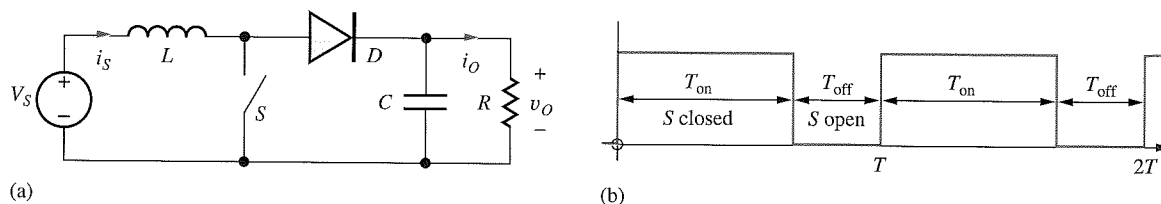
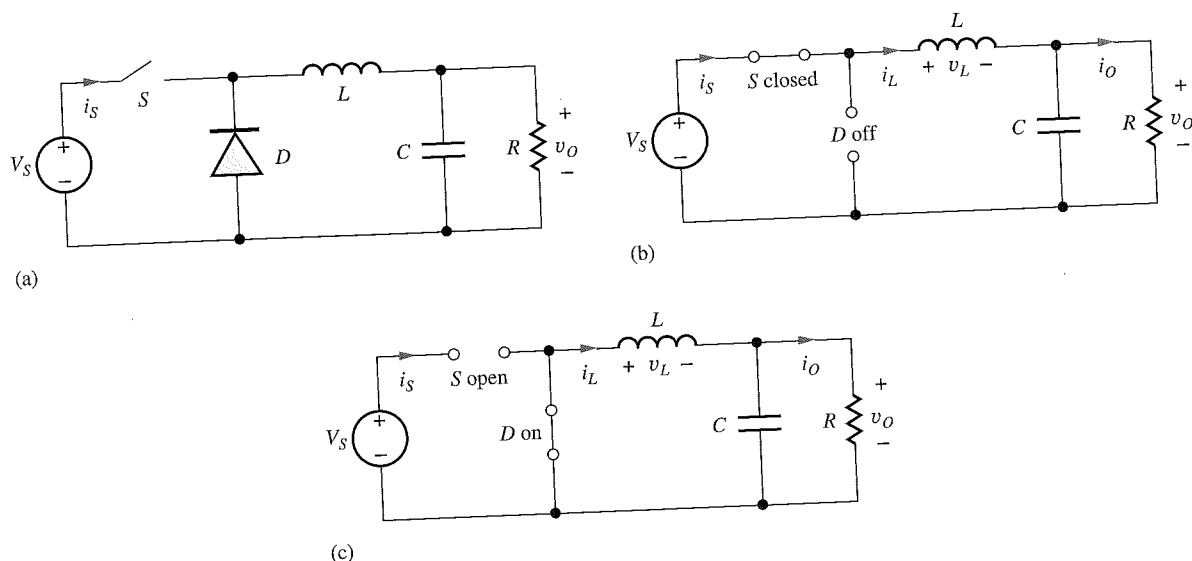

Figure 3.73 (a) dc-to-dc boost converter. (b) Periodic switch timing: Switch S is closed during T_{on} and open during T_{off} .
Figure 3.76 (a) dc-to-dc buck converter. (b) Model valid during T_{on} when switch S is closed. (c) Model for T_{off} interval when switch S is open.
The circuit for the basic boost converter is in Fig. 3.73(a). At the heart of the converter are the inductor L and switch S , which is periodically turned on and off, as indicated in Fig. 3.73(b). The switch is closed during the time interval T_{on} and open during the time interval T_{off} . Switching is periodic with period $T = T_{\text{on}} + T_{\text{off}}$. Diode D also operates as a switch and is off when S is on and vice versa. A dc input voltage is supplied by source V_S , and R and C represent the load resistance and filter capacitor, respectively.
EXERCISE: What is the duty cycle of the switching waveform in Fig. 3.73(b)?
The buck converter in Fig. 3.76 is designed to produce an output voltage that is smaller than the input voltage. Operation of the buck converter is similar to that of the boost converter, and switch S operates periodically with the same timing as in Fig. 3.73(b).
Switch S Closed During the time interval T_{on} , switch S is closed, and the positive input voltage reverse-biases diode D , resulting in the equivalent circuit in Fig. 3.76(b). We again assume that the ripple voltage at the output is small enough that the output voltage can be approximated by a constant voltage, $v_O \approx V_O$. Using this assumption, the voltage across the inductor is equal to $V_S - V_O$, and the inductor current at the end of the first T_{on} interval will be
in Fig. 3.76(c). The voltage across the inductor is now equal to $-V_O$. The inductor current at the end of the T_{off} time interval is
- 3.116. Draw a graph of the waveform for the current in the switch in Fig. 3.73 for the converter in the boost converter exercise (page 149). (b) Repeat for the current in diode D .
- 3.119. (a) Draw a graph of the waveform for the current in the source V_S in Fig. 3.76(a) for the converter in the buck converter exercise (page 152). (b) Repeat for the current in diode D .
3.120. Draw a graph, similar to Fig. 3.77, showing the waveforms of both the inductor current and output voltage for the buck converter in Fig. 3.76(a). Use the values from the buck converter exercise (page 152).